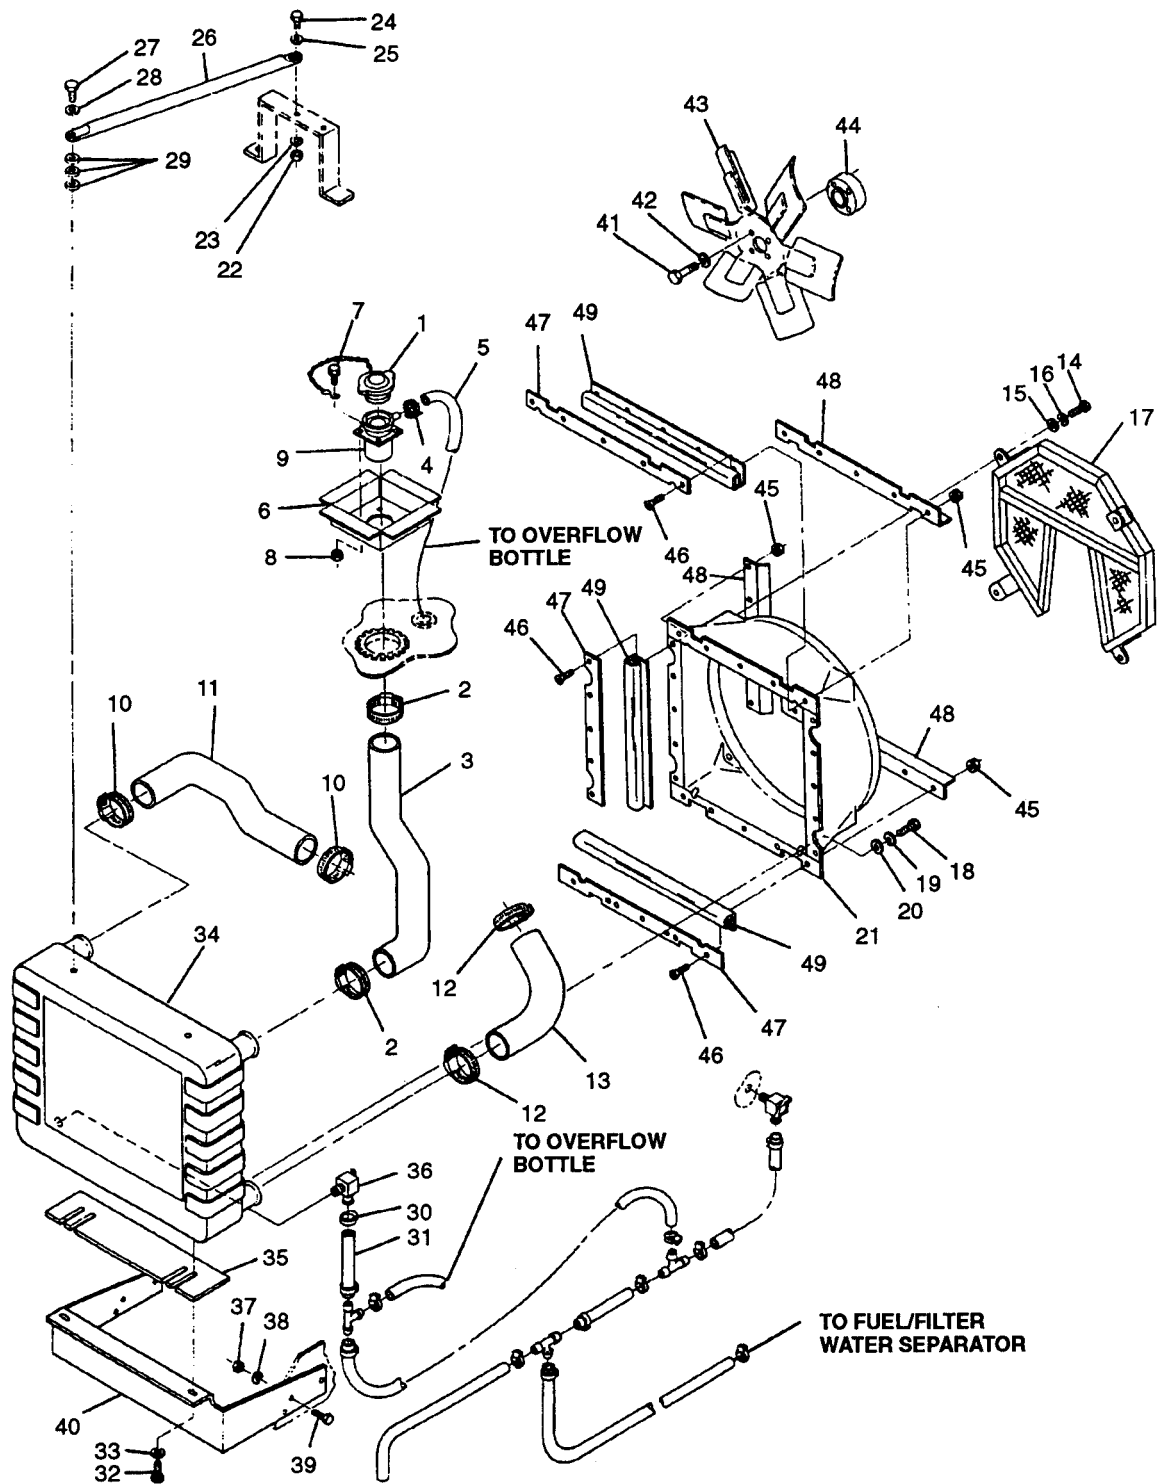

FIGURE 2-23. Coolant System
- b. Slowly remove radiator cap (1, FIGURE 2-23).
- g. Install radiator cap (1) on pressure tester.
- j. Install radiator cap (1).
- d. Slowly remove radiator cap (1, FIGURE 2-23).
- e. Open radiator drain valve (36) and drain coolant/antifreeze into suitable container to a level below radiator filler hose (3) connection at radiator.
- f. Loosen clamps (2). Remove radiator filler hose (3) and clamps (2).
- g. Loosen clamp (4) and disconnect overflow hose (5) from radiator filler neck (9).
- h. Remove radiator fill panel (6) and filler neck (9) from generator set.
- i. Remove bolts (7), nuts (8), cap (1), and radiator filler neck (9) from radiator fill panel (6).
- c. Inspect radiator filler hose (3, FIGURE 2-23) for cracks, holes, and dry rot.
- d. Inspect filler panel (6), filler neck (9), and cap (1) for cracks, excessive corrosion, and other damage.
- a. Install radiator filler neck (9, FIGURE 2-23) and cap (1) on radiator fill panel (6) with bolts (7) and nuts (8).
- b. Position radiator fill panel (6) and filler neck (9) in generator set and attach overflow hose (5) with clamp (4).
- c. Install radiator filler hose (3) on filler neck (9) and radiator (34) with clamps (2).
- e. Close radiator drain valve (36) and add coolant /antifreeze to proper level, paragraph 2-1.2.2.
- e. Open radiator drain valve (36) and drain coolant/antifreeze into suitable container.
- f. Loosen clamps (10). Remove upper coolant hose (11) and clamps (10).
- c. Inspect upper coolant hose (11, FIGURE 2-23) for cracks, holes, and rotting.
- a. Install upper coolant hose (11, FIGURE 2-23) on thermostat housing opening and radiator (34) with clamps (10).
- b. Close radiator drain valve (36) and add coolant/antifreeze to proper level, paragraph 2-1.2.2.
- c. Install radiator cap (1).
- e. Open radiator drain valve (36) and drain coolant into suitable container.
- f. Loosen clamps (12) and remove lower coolant hose (13).
- c. Inspect lower coolant hose (13, FIGURE 2-23) for cracks, holes, and rotting.
- a. Install lower coolant hose (13, FIGURE 2-23) on radiator outlet opening and water pump opening with clamps (12).
- d. Locate overflow or drain hose to be removed, as shown on FIGURE 2-23 and FIGURE 2-25.
- d. Remove bolts (14, FIGURE 2-23), washers (15), lockwashers (16), and fan guard (17) from shroud (21).
- a. If removed, install radiator mounting bracket (40, FIGURE 2-23) with bolts (39), lockwashers (38), and nuts (37).
- b. Install drain valve (36) in radiator (34).
- c. Position radiator (34) on radiator mount (40), and install shroud (21) on radiator with bolts (18), lockwashers (19), and flatwashers (20).